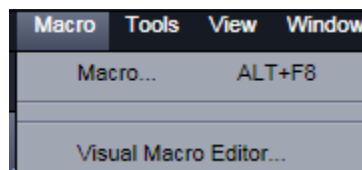

Fig. 2 Macro menu
– This displays the **Macro** menu (see Fig. 2).